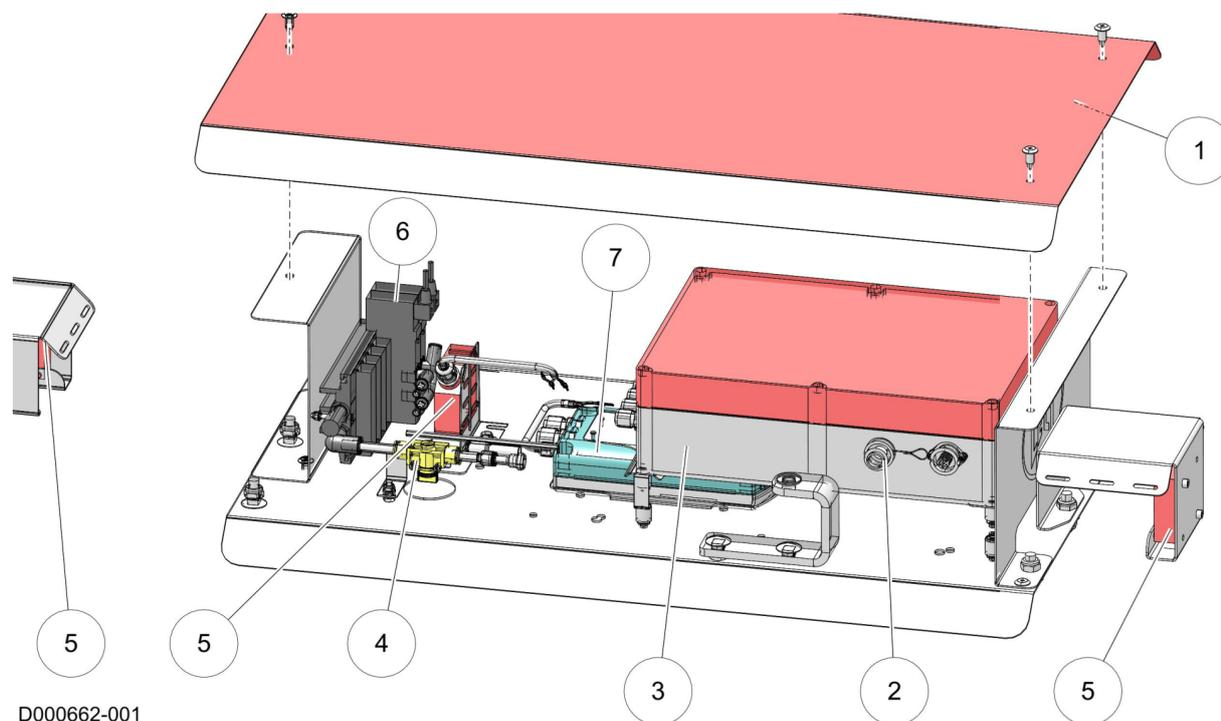

Figure 5. Control unit
The control unit (10) (see figure 4 on page 4-1) is installed on top of the portal. On the bottom plate several parts (see figure 5 on page 4-2) are installed.
The PCB on which the Grazeway software runs is installed in the control box (3) (see figure 5 on page 4-2). The PCB controls the solenoid valves that operate the gates. The pcb is connected to the photocell and registers if there is a cow inside the Grazeway.
- Photocell (5) (see figure 5 on page 4-2) is installed inside the control box, this photocell determines if there is a cow in the Grazeway.
The pneumatic valves block (6) (see figure 5 on page 4-2) has solenoid valves and operate the Cylinders on the gates. The pneumatic valves are controlled by the PCB.
The switch on the main valve to apply pressurized air (4) (see figure 5 on page 4-2) can be operated from inside the portal through a hole next to the photocell.
The ISO identification reader has a Velos control box and an antenna PCB, which both are installed inside the control box (3) (see figure 5 on page 4-2) of the Grazeway.